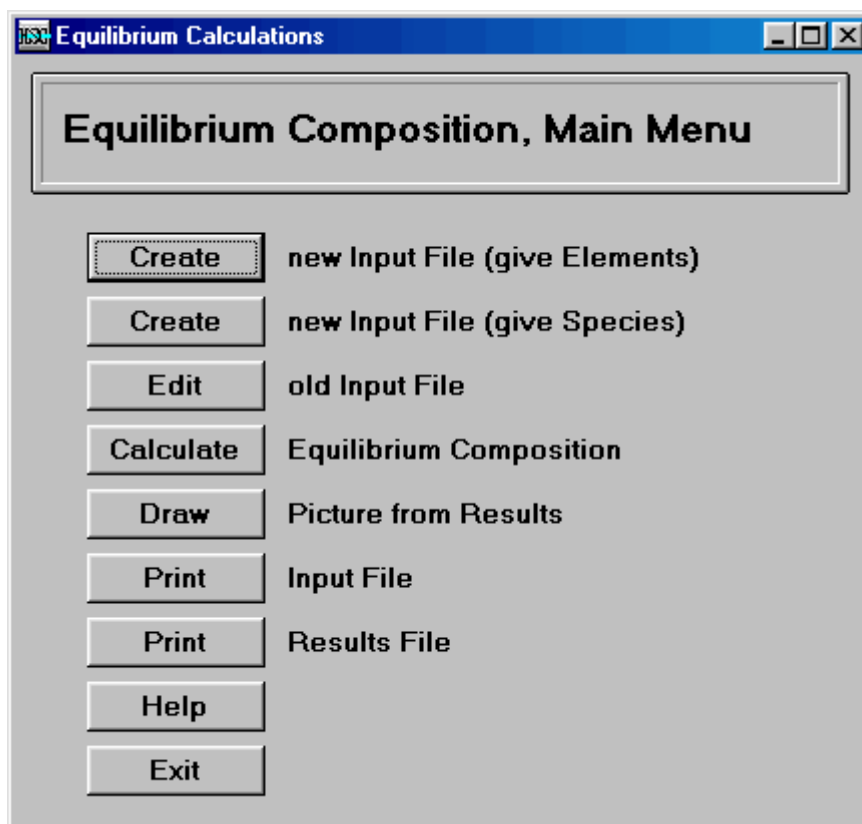
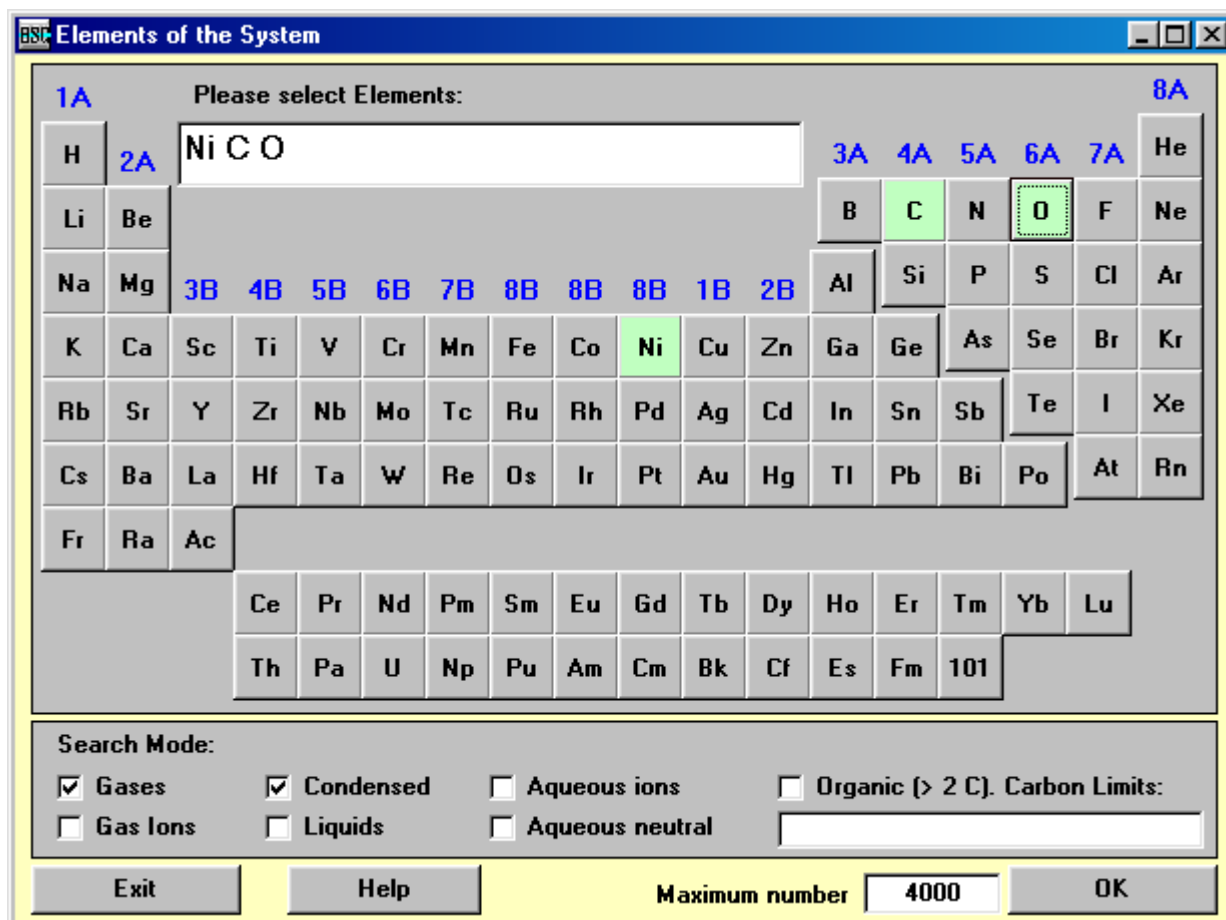

Fig. 1. Equilibrium Module Menu.
Fig. 2. Specifying the elements of the system.
The equilibrium composition is calculated using the GIBBS or SOLGASMIX solvers, which use the Gibbs energy minimization method. The results are saved in *.OGI or *.OSG text files respectively. The post-processing PIC-program reads the result files and draws pictures of the equilibrium configurations if several equilibria have been calculated. The user can toggle between the equilibrium and graphics programs by pressing the buttons shown in Figs. 1, 4, 6 and 7.
1. Press the **top button** in the menu, see Fig. 1. Then specify the elements which are present in your system, see Fig. 2. The HSC-program will search for all the available species in the database and divide them, as default, into gas, condensed and aqueous phases. The user can then edit this preliminary input table.
2. Press the **second button** of the menu if you already know for sure the possible substances and the phases of the system, see Fig. 1.
3. Press **Edit Old Input File** if you already have an input file which can be used as a starting file. Edit the input table and save it using a different name, see Fig. 1.
If you only want to calculate the equilibrium compositions with the existing *.IGI-files press **Calculate**, see Fig. 1. If you want to draw pictures from the existing *.OGI files made by the GIBBS-solver press **Draw**, see Fig. 1. Using **Print** you can get a paper copy of the *.IGI and *.OGI files.
If you do not know the substances of the system you may also start by specifying its elements, i.e. a selection of the system components. The elements selected will be displayed in the Elements Window, see Fig. 2. After pressing **Elements** in the Equilibrium Menu, see Fig. 1, you can continue with the following steps:
1. Select one or more **elements**: Press buttons or type the elements directly into the box. Try for example Ni, C, O, as given in Fig. 2. Do not select too many elements, to avoid a large number of species. In practice 1 - 5 elements is OK
3. The results in the output-file can be further processed to graphical form by pressing **Draw** in Fig. 1 or 6 if several successive equilibria have been calculated.
The first phase to be defined is always the gas phase, and all gaseous species must exist under the gas phase row. Species of the same phase must be given consecutively one after another in the table. As default, HSC Chemistry automatically relocates all the gaseous species, condensed oxides, metals, aqueous species, etc. into their own phases if you start from the “give Elements” option, see Fig. 1. The final allocation, however, must be done by the user.